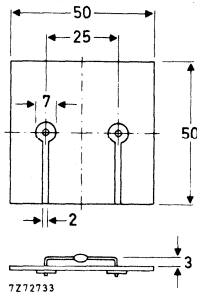

Fig. 2 Device mounted on a printed circuit board.
2. Thermal resistance from junction to ambient when mounted on a 1,5 mm thick epoxy-glass printed-circuit board; Cu-thickness $\geq 40\text{ }\mu\text{m}$; Fig. 2 $R_{th\ j-a} = 100\text{ K/W}$